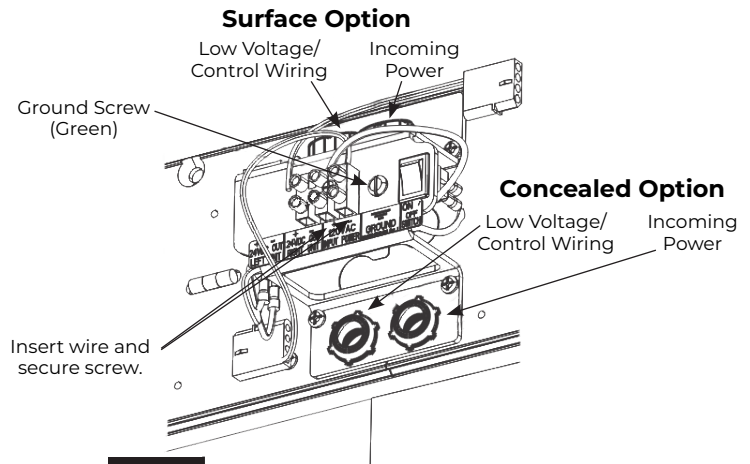

Figure 1
2. Connect 120VAC power to the terminal strip on top of the Conduit Assembly (Figure 1):